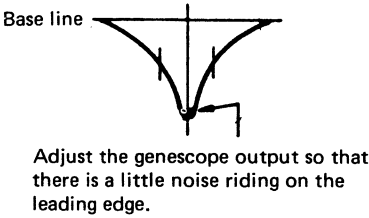

Fig. 8
5. Feed in a weak signal from the genescope. Adjust T151, T203 and T204 for maximum gain and the waveform of Figure 8.